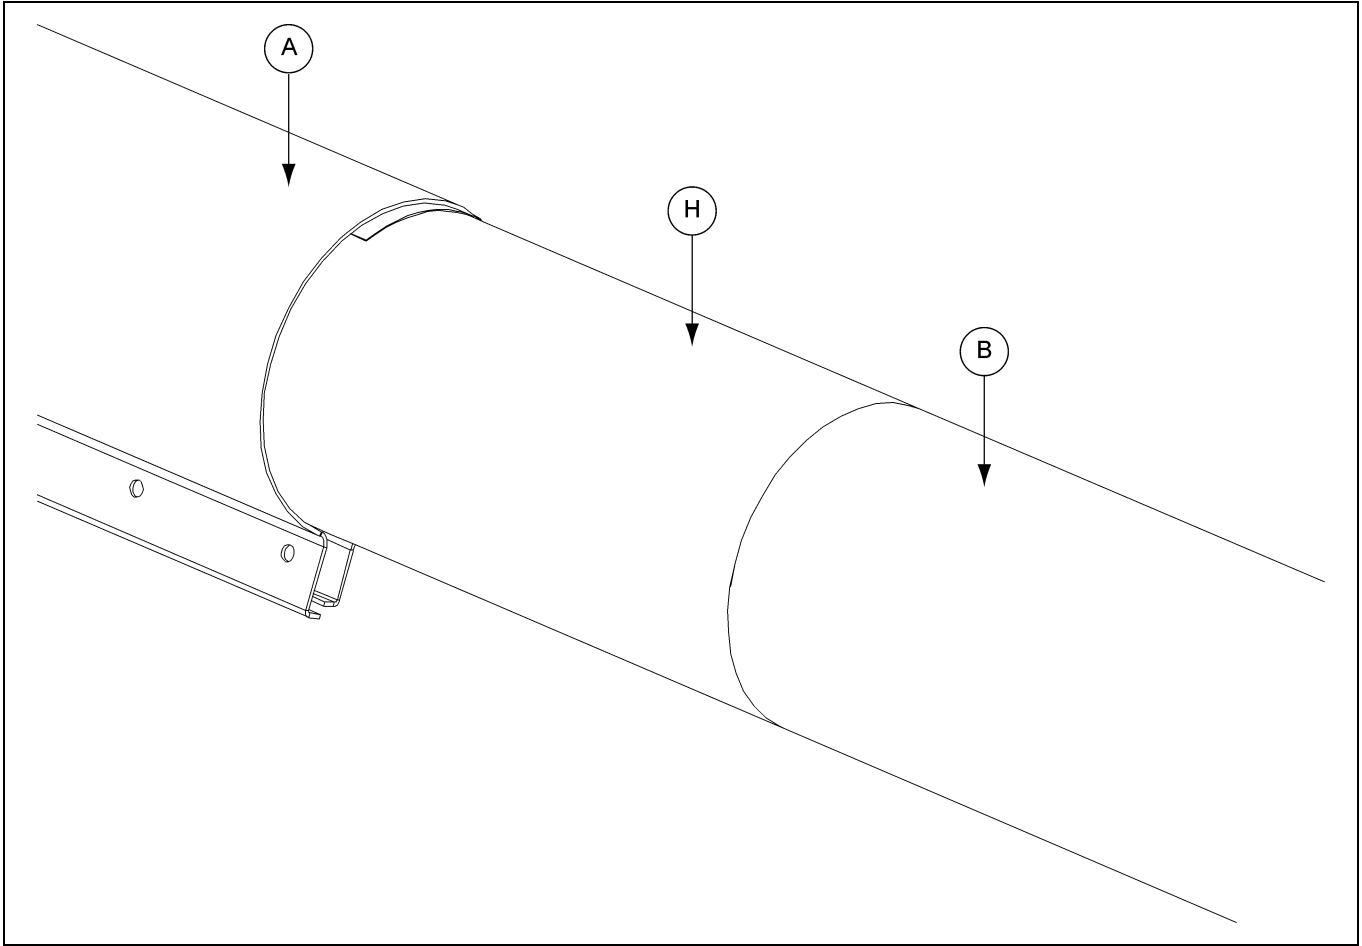

Figure 4C
3. Slide the extension tube (H) over the extension flight (G), making sure the tube (H) is pressed securely against the main auger tube (B). (See Figure 4C.)